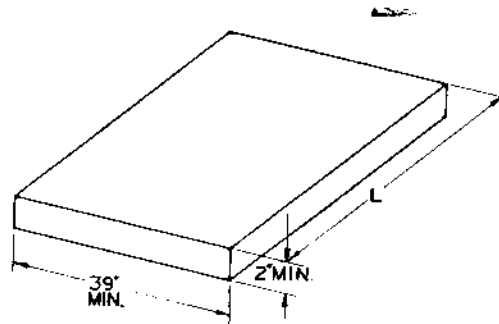

FIGURE 1
A boiler foundation is recommended where the boiler room floor is not level or where the boiler room floor cannot support the weight of the boiler. Locate the boiler foundation to provide proper clearances for installation of the piping, burner, and internal water heater(s). Allow a minimum clearance of 36" from the back of the boiler for breeching erection. Allow 39" clearance to the left side for cleaning and tankless or storage heaters, if used. A level concrete pad or curb foundation is suggested of the size shown in the table and FIGURE 1. The height of the boiler foundation should be at least 2".
- Locate the back section on top of the boiler foundation shown in FIGURE 1. Block under the 6" diameter pipe to hold the back section upright without additional support. These sections are top-heavy and will not stand individually without support. In supporting the back section, care must be taken to assure that the section remains plumb. The 6" diameter piece of pipe can be removed after several sections have been erected.